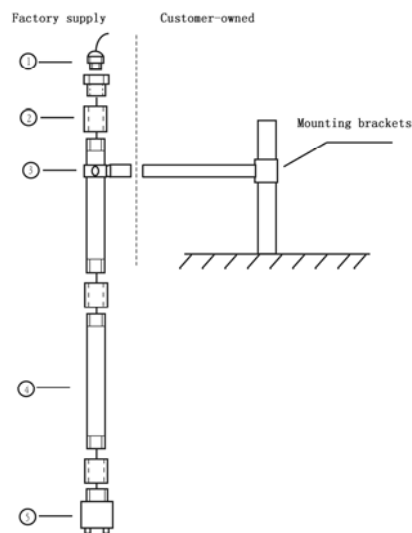

Fig. 3.4 Immersion sensor installation
3. A typical installation using optional quick-release mounting brackets is shown in Fig. 3.4. The cable is routed through the pipe and connected to the transmitter.